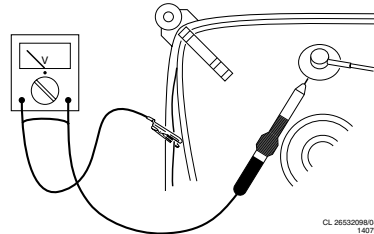

Figure 2-1
- In order to prevent damage to ICs and transistors, avoid all high voltage flashovers. In order to prevent damage to the picture tube, use the method shown in Fig. 2-1, to discharge the picture tube. Use a high voltage probe and a multi-meter (position VDC). Discharge until the meter reading is 0 V (after approx. 30 s).